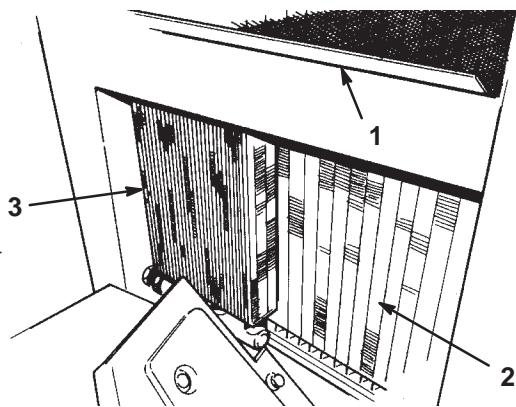

Figure 23
1. Clean debris off of the radiator screen, radiator, and oil cooler (Fig. 23) daily or hourly if conditions are extremely dusty and dirty; refer to Cleaning the Radiator and Screen, page 36.